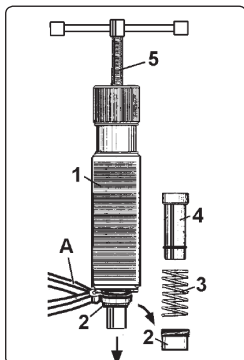

fig.3
- 5.2.1. Dismantle by removing the ram cover (fig.3.2) with soft jaw grips (fig.3.A) (body may have to be held in a soft jaw vice, ensure bodythread is not damaged).